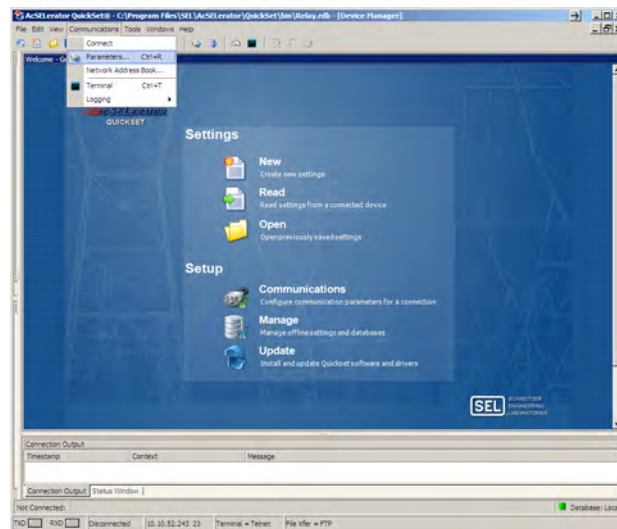

Figure 3.1 Serial Port Communication Dialog Box
- Step 1. Select **Communications** from the ACSELERATOR QuickSet main menu bar, as shown in *Figure 3.1*.